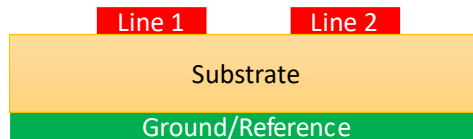

Figure 3
3. Figure 3 shows the cross section of coupled microstrip transmission lines.